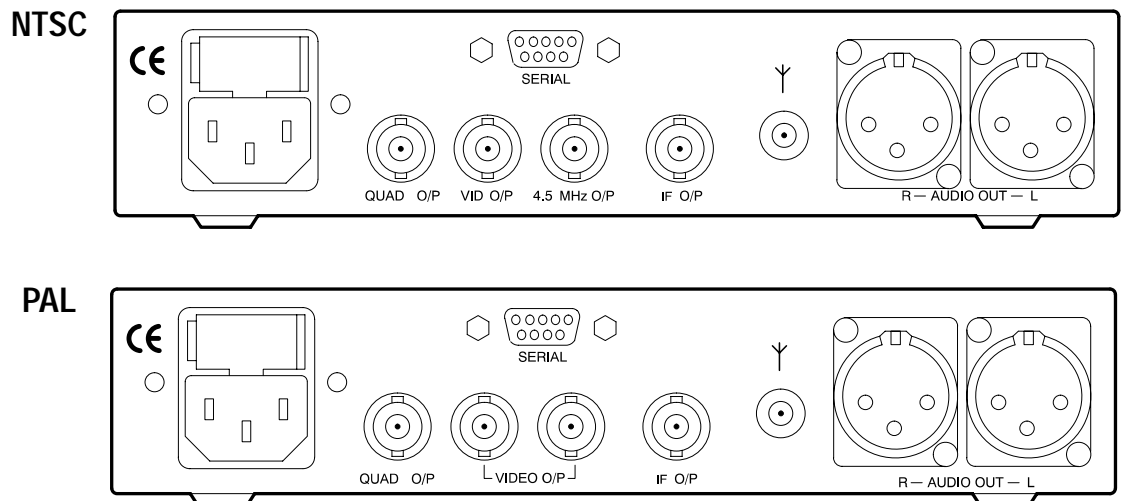

Figure 2–2: Rear-panel connectors for NTSC and PAL models
This section describes the rear panel connectors, which are illustrated in Figure 2–2.
- VIDEO O/P. Provides a standard 1 volt video output with nominal 75 Ω impedance. The NTSC model has one output and the PAL models have two identical VIDEO O/P outputs. See Figure 2–2.
- AUDIO OUT (L). Provides a BTSC stereo left channel or mono channel output for NTSC systems. For PAL systems, it provides a NICAM/FM audio output, left channel or language 1 dual mode.
- AUDIO OUT (R). Provides a BTSC stereo right channel or second audio program (SAP) output for NTSC systems. For PAL systems, it provides a NICAM/FM audio output, right channel or language 2 dual mode.